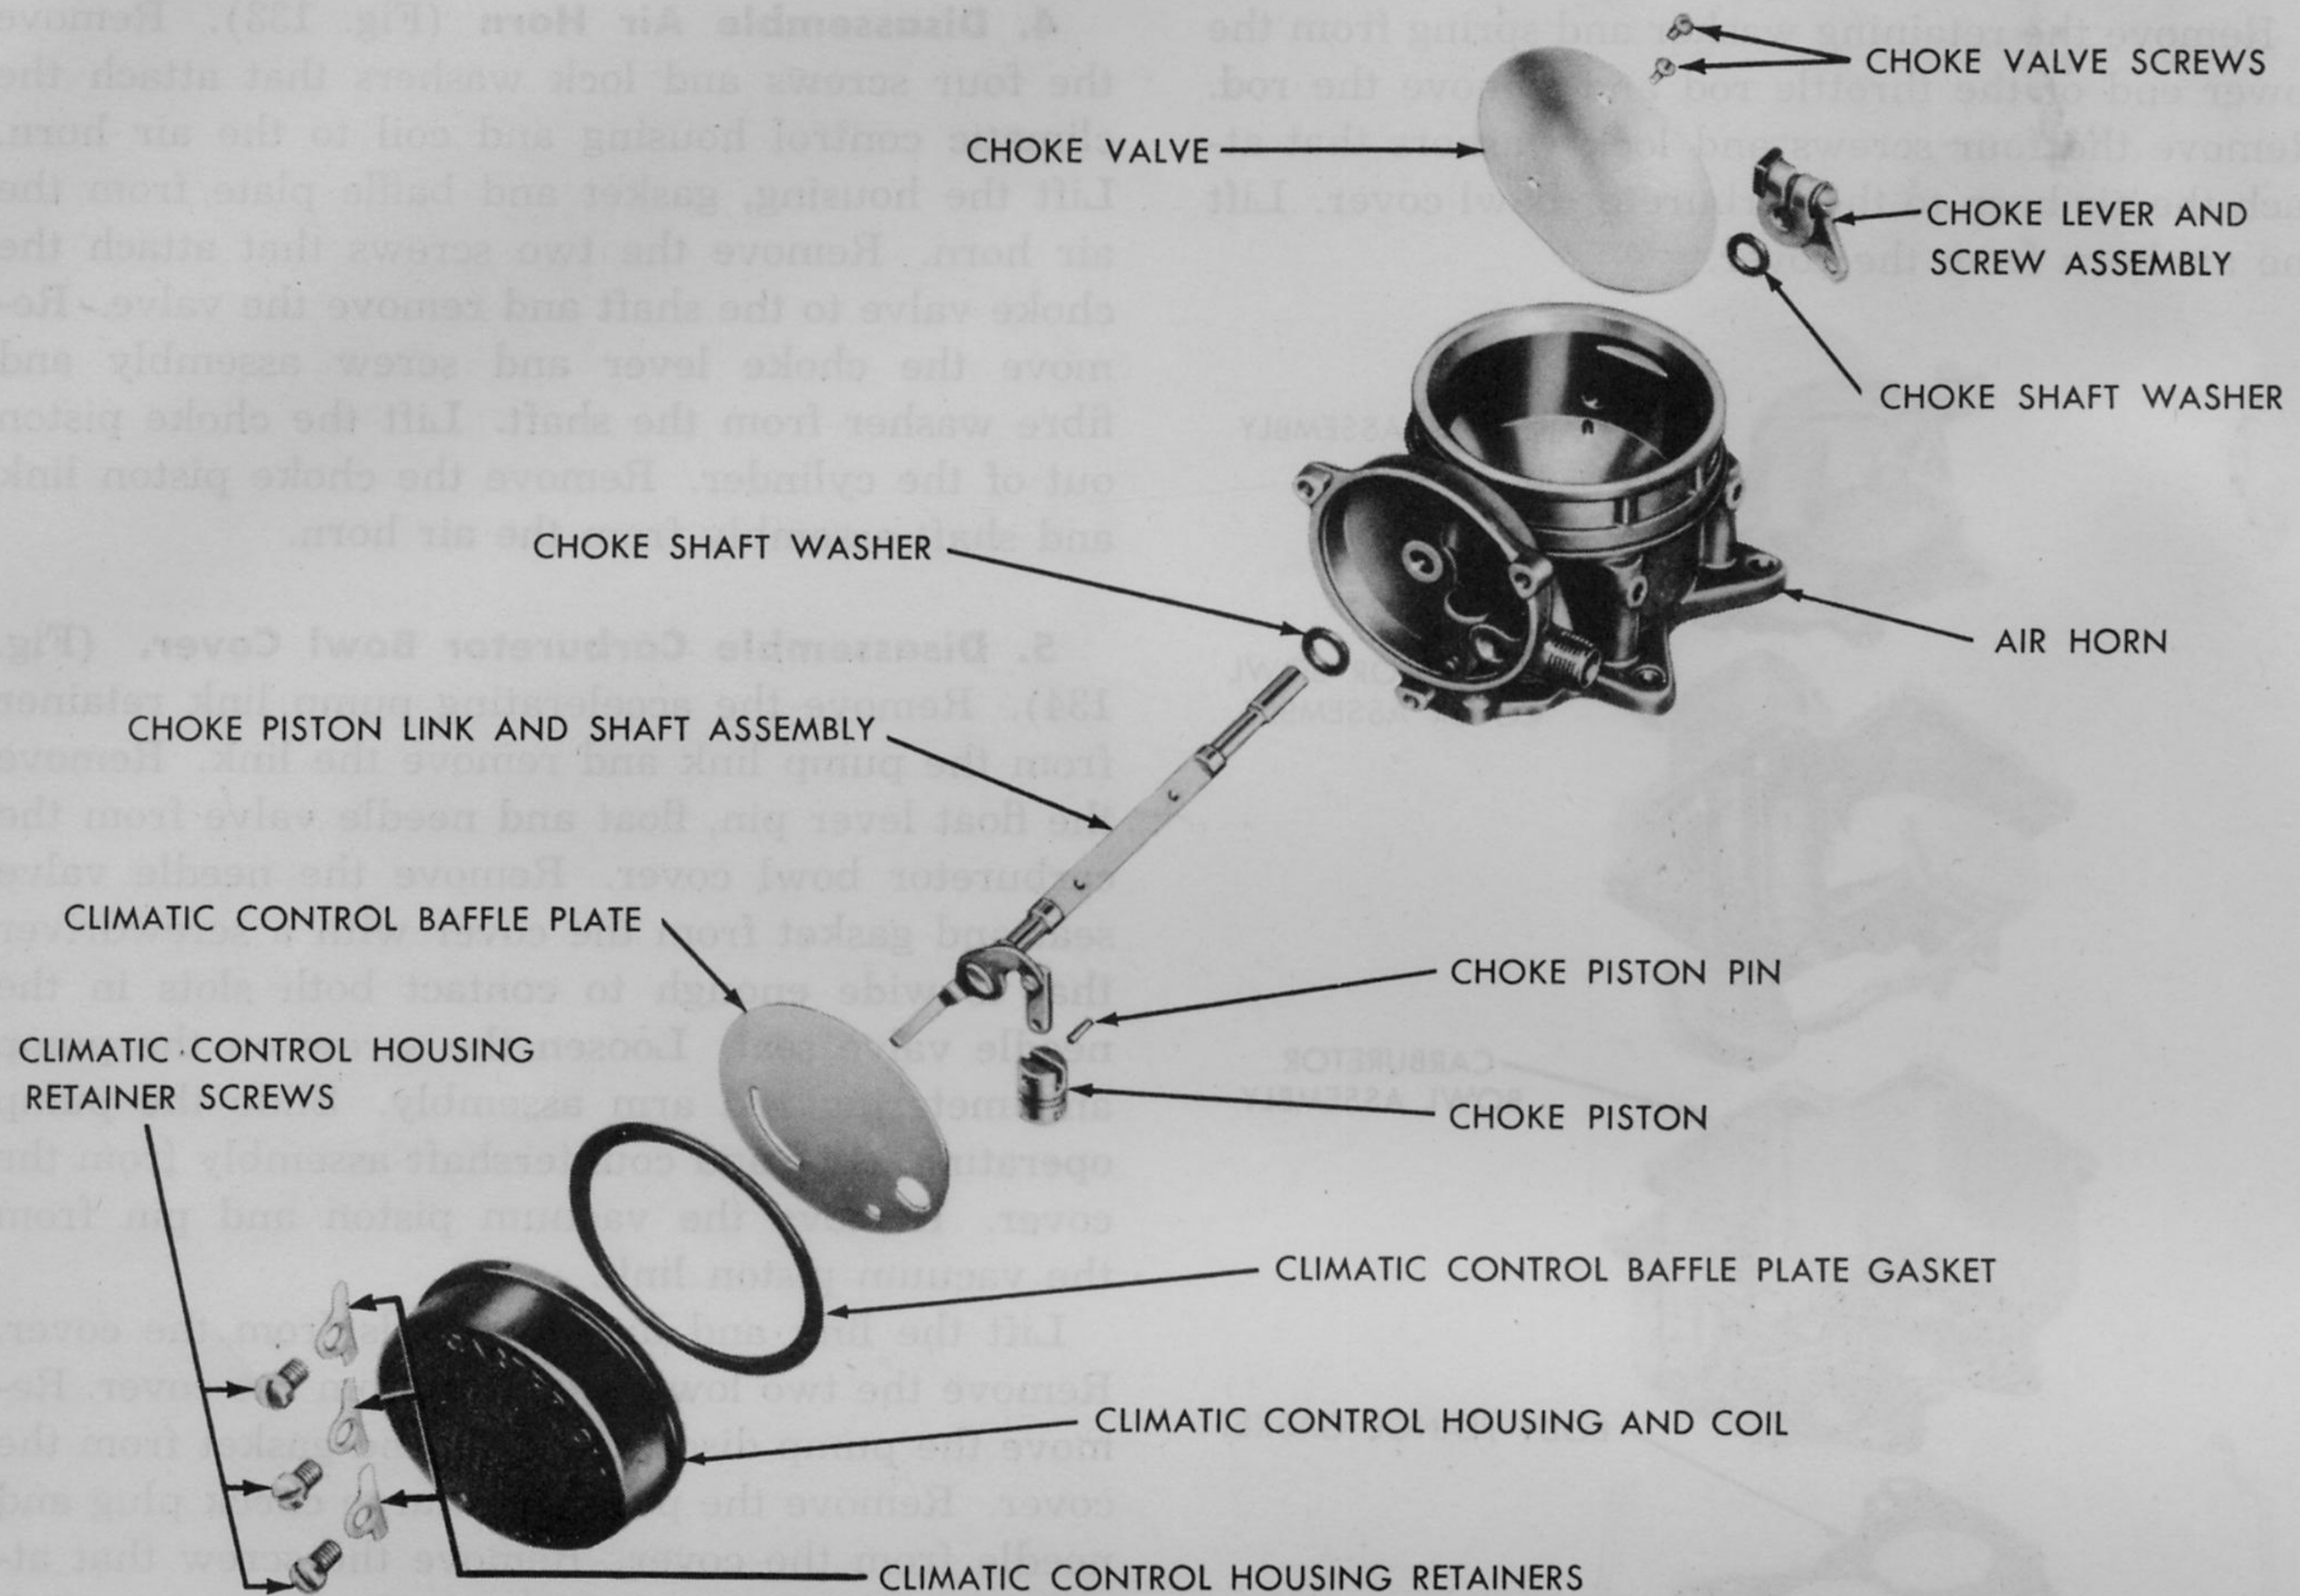

Fig. 133—Air Horn—Exploded View (WCD-723S)
4. Disassemble Air Horn (Fig. 133). Remove the four screws and lock washers that attach the climatic control housing and coil to the air horn. Lift the housing, gasket and baffle plate from the air horn. Remove the two screws that attach the choke valve to the shaft and remove the valve. Remove the choke lever and screw assembly and fibre washer from the shaft. Lift the choke piston out of the cylinder. Remove the choke piston link and shaft assembly from the air horn.
1. **Assemble Air Horn** (Fig. 133). Place a new